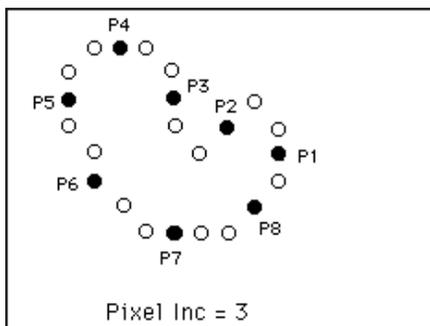

Figure 8.6. The effect of using a pixel increment.
- 2) Prune out pixels using the pixel increment  $i$ . Let the pixels be labelled (in a counterclockwise direction)  $p_1, p_2, \dots$  with  $p_1$  being the base pixel. The pixels retained after pruning are  $p_1, p(1+i), p(1+2i), \dots$ . If the pixel increment is 1, all pixels are retained. If the pixel increment is 2, every other pixel is retained, etc (Fig. 8.6).